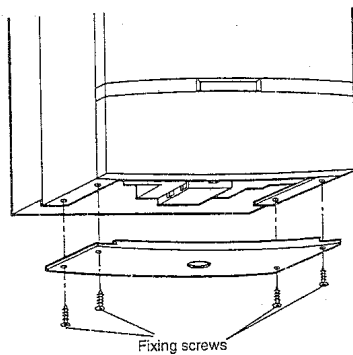

Fig. 16
- 5.2 Remove the boiler base plate, four screws (fig. 16). Remove the plugs fitted to the boiler water connections. Remove the bag of sealing washers from the boiler pipework. Remove the front panel by gripping on both sides and pulling away from the main boiler.